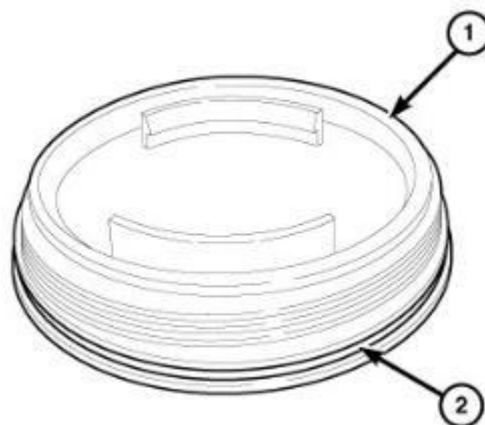

Figure 49 – Filter Cover O-ring
105. Lubricate the **NEW** O-ring seal (2) on filter covers (1) with clean diesel (Figure 49).